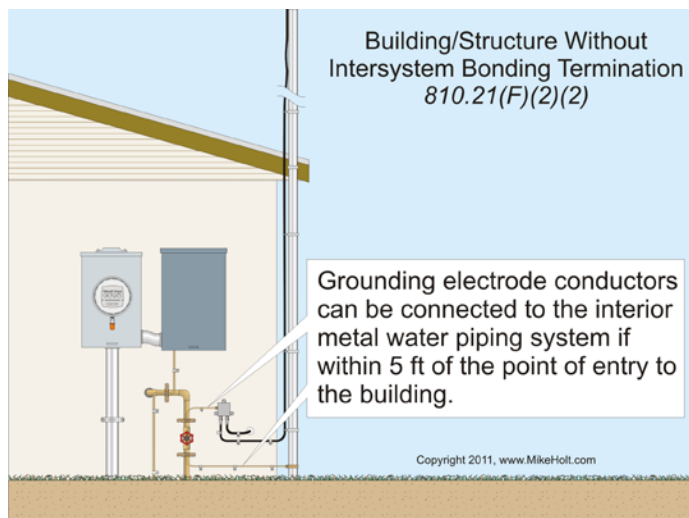

Figure 810-17
(2) Interior metal water piping system, within 5 ft from its point of entrance [250.52(A)(1)]. **Figure 810-17**
(3) Accessible means external to the building, as covered in 250.94.
(4) Nonflexible metallic service raceway.
(5) Service equipment enclosure.